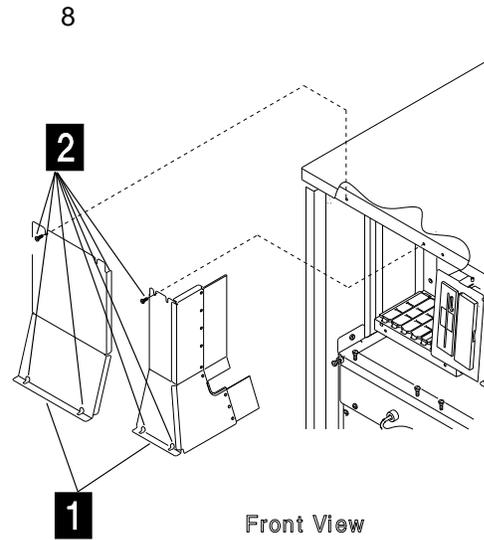

Figure 4-126. MOSS Board Covers
6. Remove the covers of the MOSS board **1**. (seven screws must be removed **2**). Refer to Figure 4-126.